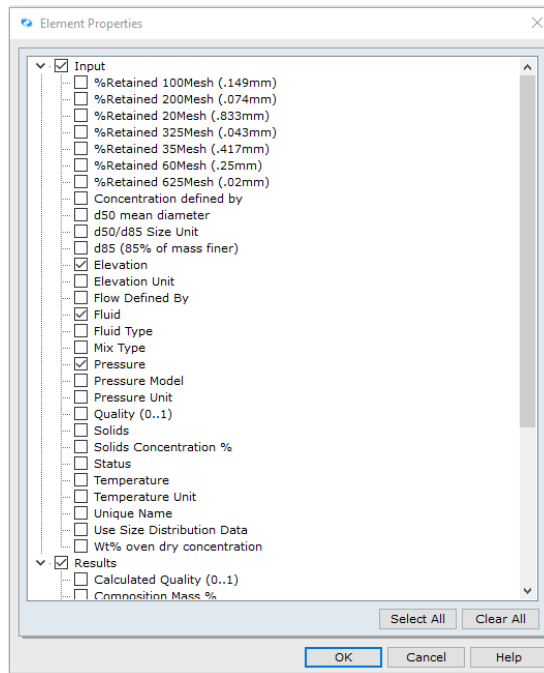

Figure 50: Element Properties Dialogue Box.
51. Now we will select the field titled *Properties* from the Input list. An *Element Properties* dialogue box will appear (Figure 50):